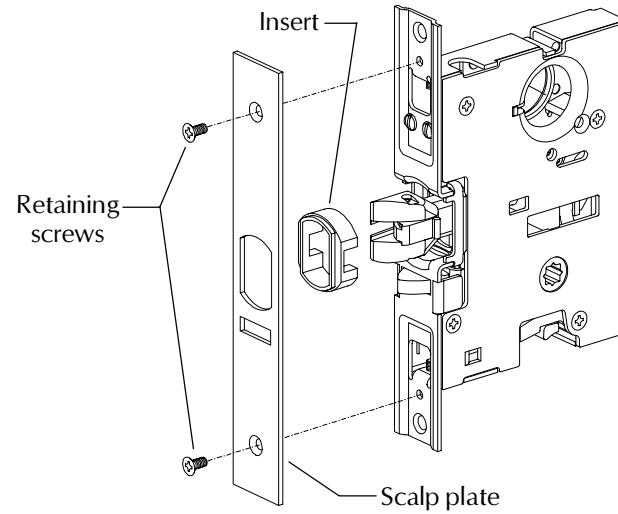

Figure 1
3. Remove retaining screws, scalp plate, and insert (Figure 1).
9. Replace insert, scalp plate, and scalp plate retaining screws (Figure 1).